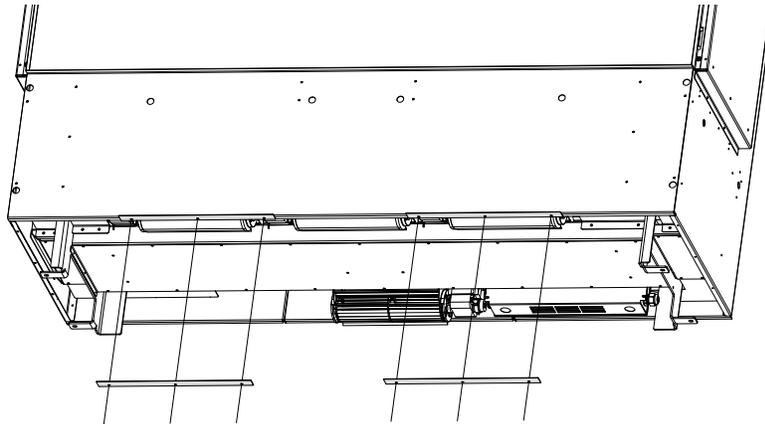

Figure 4.5 - Finishing Bracket Removal
Requirement #1 -The fireplace comes with two finishing edge brackets preinstalled at the bottom of the fireplace for the air intake opening. Since you are moving the air intake opening to a position lower than the fireplace you will have to remove the two bottom finishing edge brackets. Each bracket is held on with (2) sheet metal screws. Once removed you can discard. See Figure 4.5.